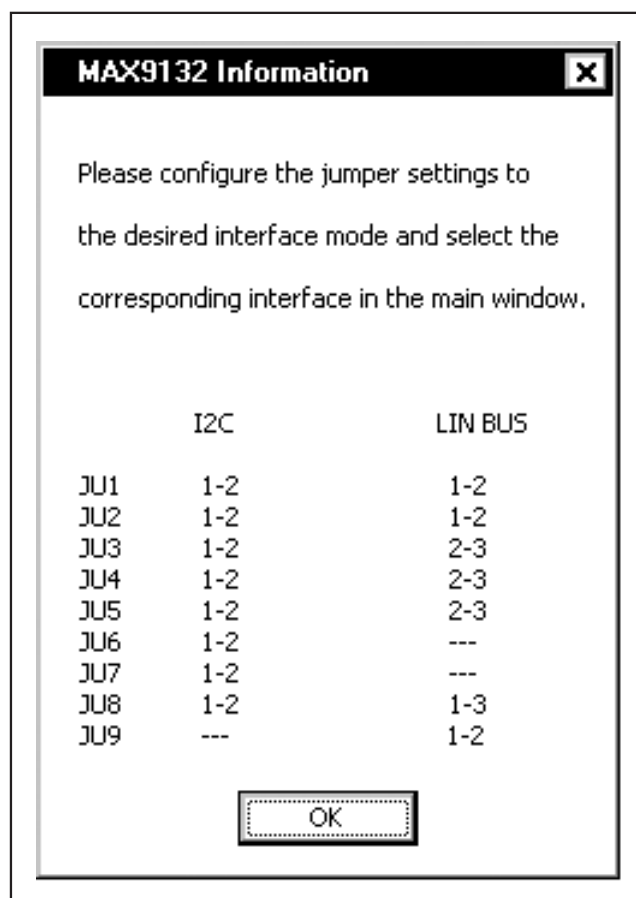
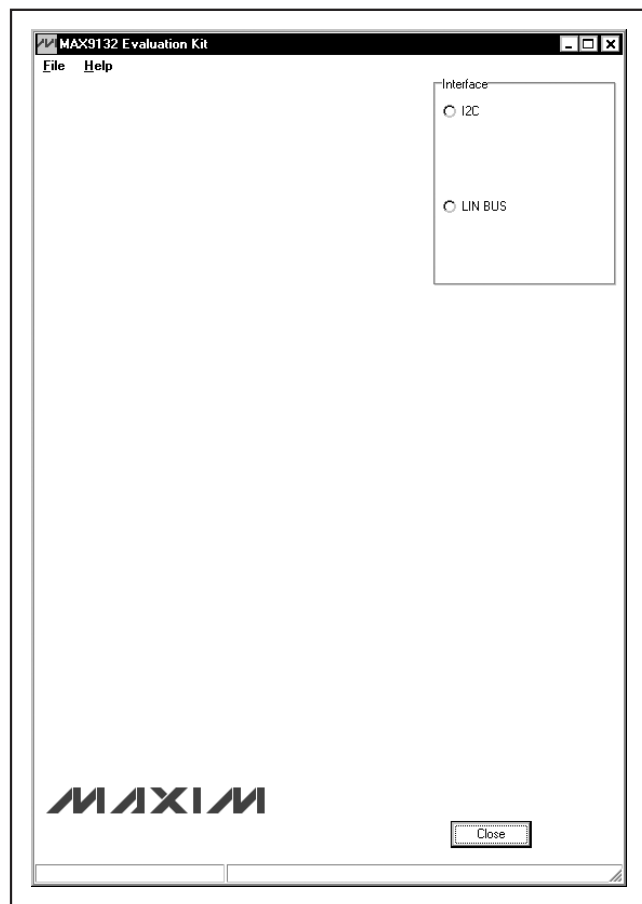

Figure 1. MAX9132 Information Window
Figure 2. MAX9132 EV Kit Software Main Window (Interface Setting)
- 13) Start the EV kit software by opening its icon in the **Start | Programs** menu. A **MAX9132 Information** window appears requesting the user to configure the jumper settings properly before proceeding (Figure 1). Press the **OK** button and the EV kit main window appears, as shown in Figure 2.